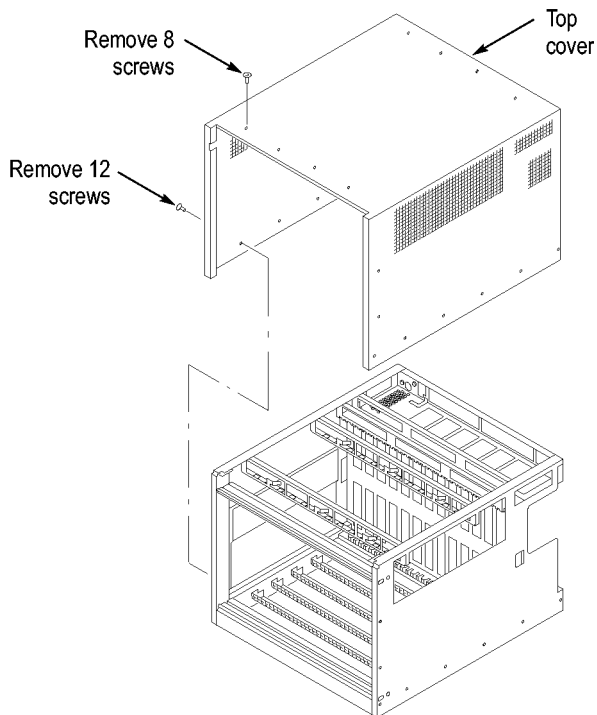

Figure 9: Removing the instrument cover
3. Remove the eight T-7 screws on the top of the instrument. (See Figure 9.)